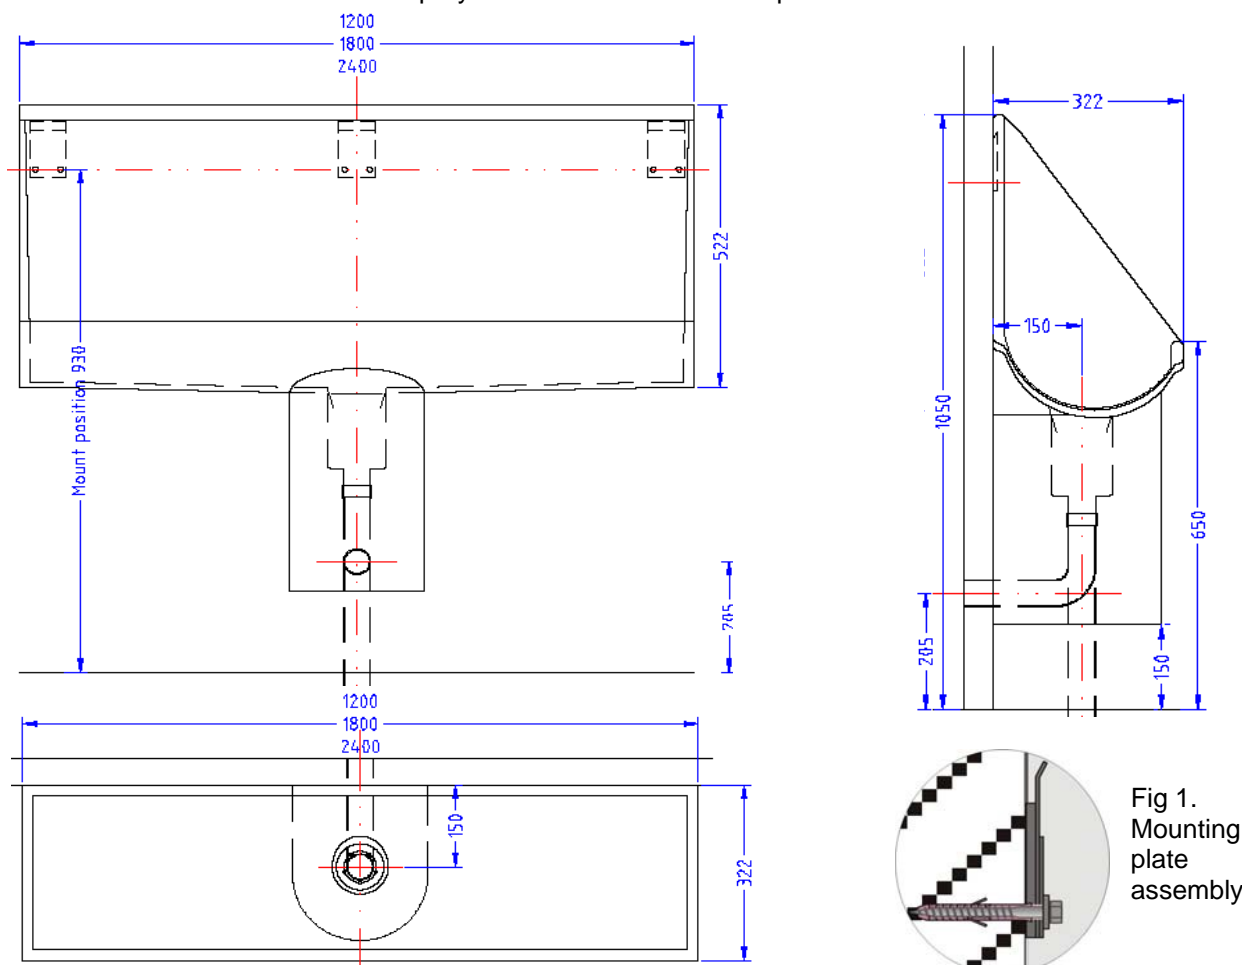

Fig 1.
- Position 5 mounting brackets 930mm from floor and at 575mm centres either side of centerline of urinal. See fig1 below for detail.